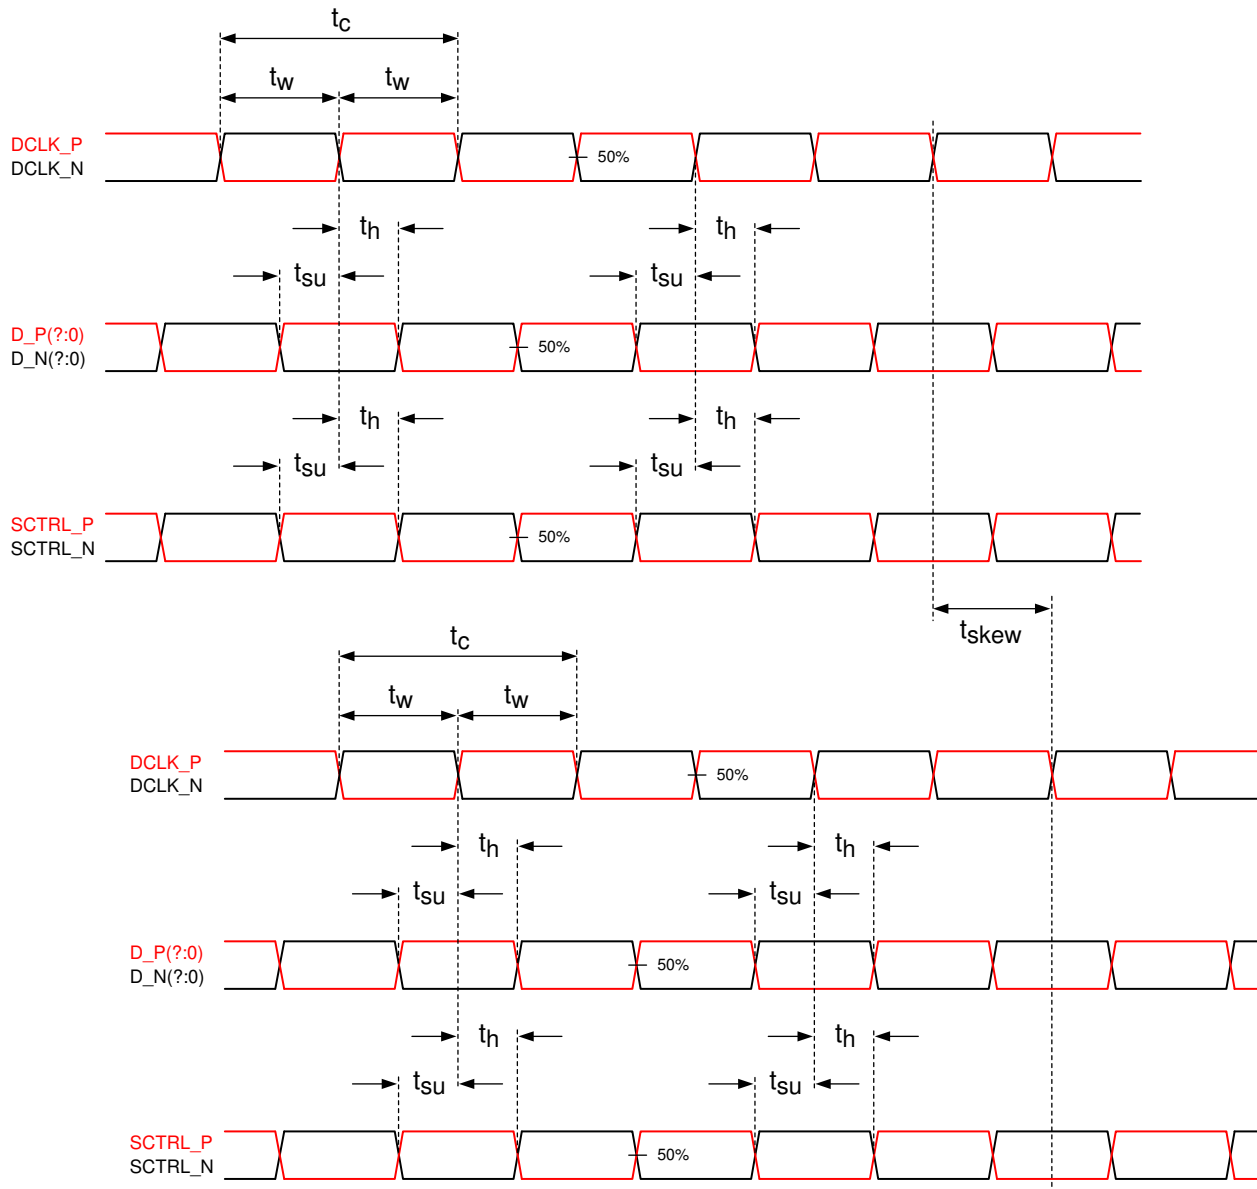

图 6-6. Timing Requirements
- (9) See LVDS Timing Requirements in Timing Requirements and 图 6-6.